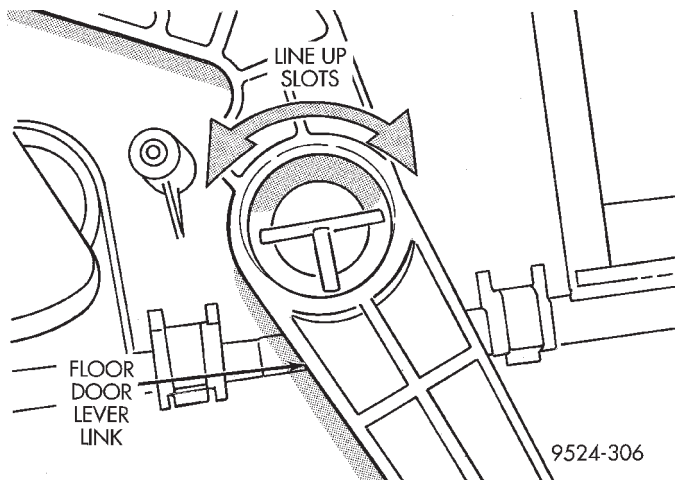
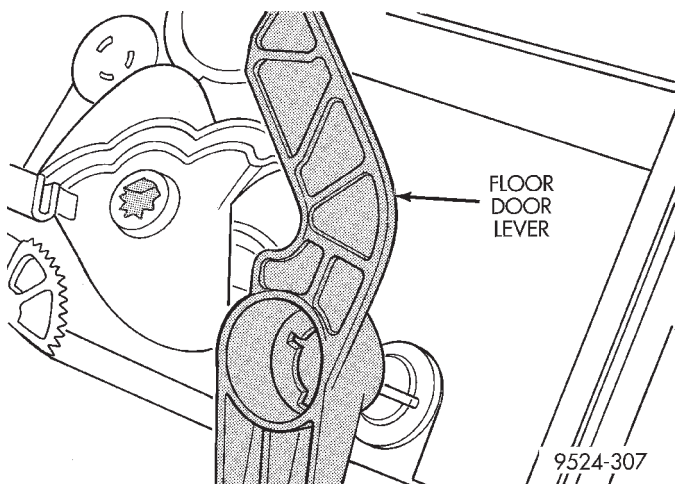

**Fig. 99 Align Slots**
**Fig. 100 Remove Lever Link**
(29) Turn floor door lever link until it aligns with slots cut into it (Fig. 99). Remove floor door lever link (Fig. 100).